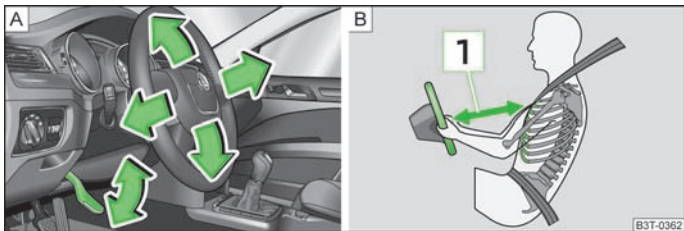

Fig. 112 Adjustable steering wheel: Lever below the steering wheel/safe distance to the steering wheel
- Maintain a distance of 25 cm [1] to the steering wheel » [Fig. 112 - \[B\]](#). Not maintaining this minimum distance will mean that the airbag system will not be able to properly protect you - hazard!
- › Pull the lever below the steering wheel down » Fig. 112 - A.